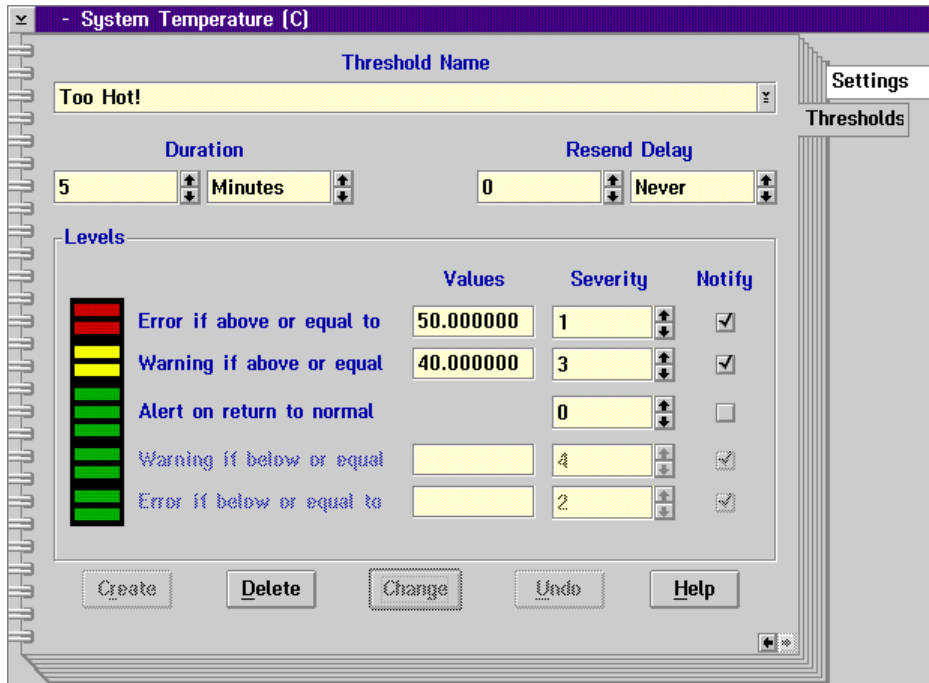

Figure 6: System Temperature Threshold Settings
3. Open the threshold settings window by either double-clicking on the monitor or right-clicking on the monitor and selecting **Open > Threshold**. Figure 6 appears.
You now need to configure the threshold, as shown in Figure 6.
If you want an alert to be sent locally on the threshold you have to select the **Notify** check box. We do want this to be sent so leave this as shown in Figure 6 on page 10.